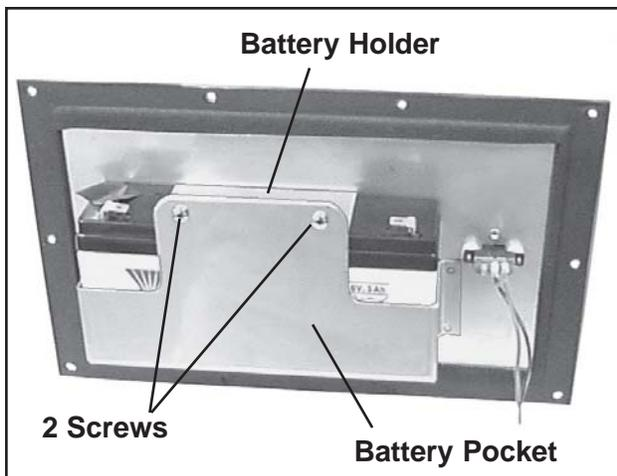

Figure 39. Battery Pocket & Holder
8. With a small Phillips screwdriver, remove the two screws that secure the battery holder in the battery pocket (Figure 39).
3. Secure the battery holder to the battery pocket with the two screws removed earlier (Figure 39).